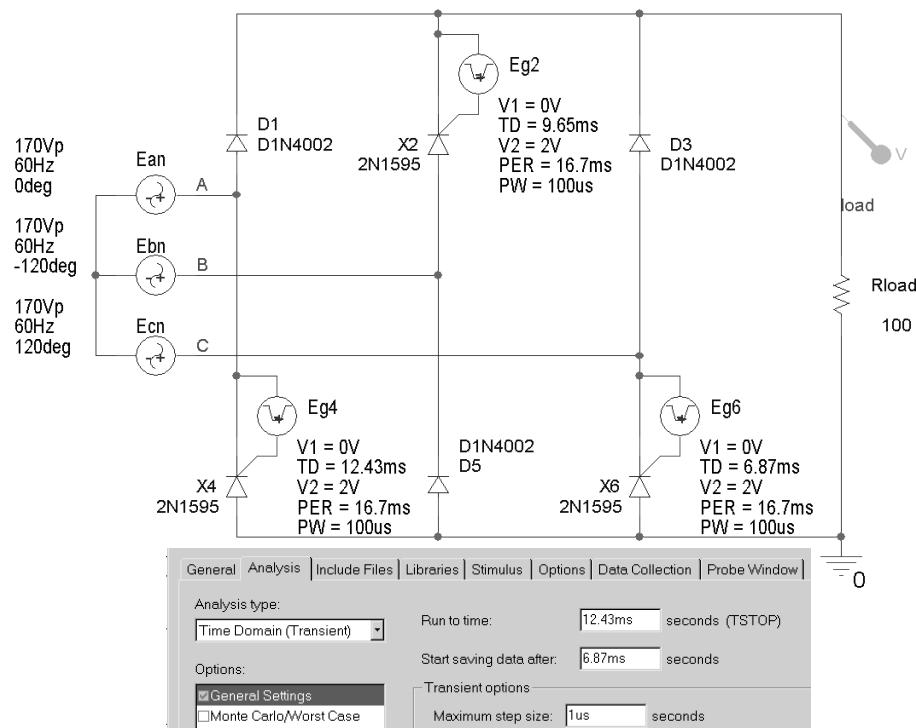

Figure 9-20 Simulation setup for Example 9-6
4. The evaluation version of OrCAD allows only three SCRs. The rest must be diodes. SCR6, SCR2, and SCR4 are used. The simulation is then viewed only during the time that these SCRs are conducting. The schematic and the simulation setup are shown in Figure 9-20